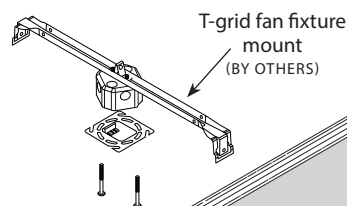

FIGURE 3:
3. Install mounting bracket ¼" IPS nipple and ¼" IPS nuts onto each end of the housing (Figures 3 & 4).